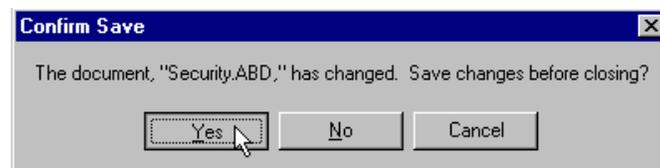

Figure 3-83 Closing Application Dialog
73. Choose **Exit** from the **File** menu. The program asks if you want to save the document “Security.ABD” before closing; click **Yes** (Figure 3-83).